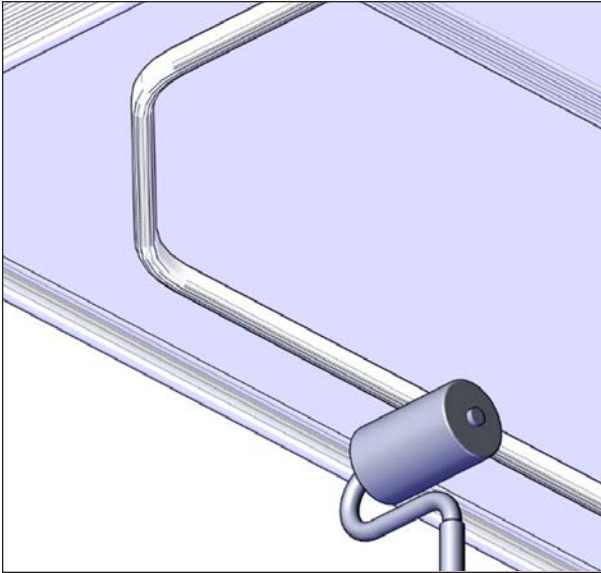

FIGURE 105: APPLY PRESSURE WITH ROLLER
12. Once satisfied that the seal is released, lift up the cover 36" (91 cm) high. Apply a minimal pressure of 15 psi (103 kPa) on the seal with the roller as shown in Figure 105 to properly bond the adhesive to the underside of the cover.